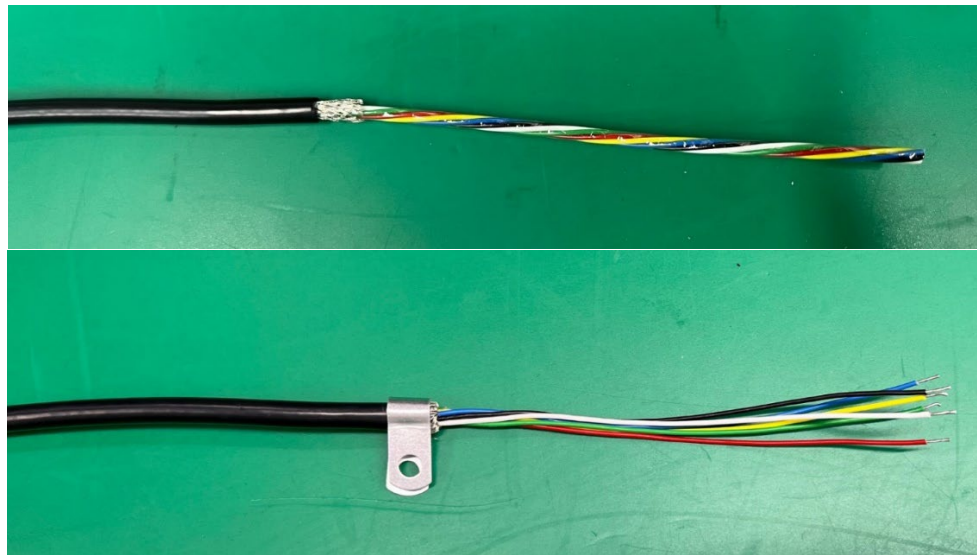

Figure 2-28: Load Cell Cable with Bayonet Fasten
4. Place the grounding clip supplied with the terminal over the exposed shield wire (see Figure 2-28).